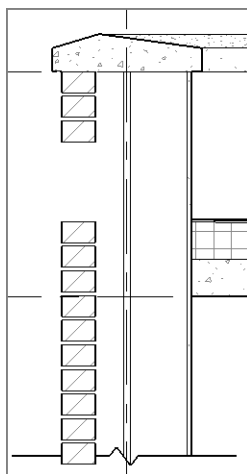

FIGURE 12.14: The bricks are being placed.
5. Press Esc twice. Look at Figure 12.14. Does your detail look the same?